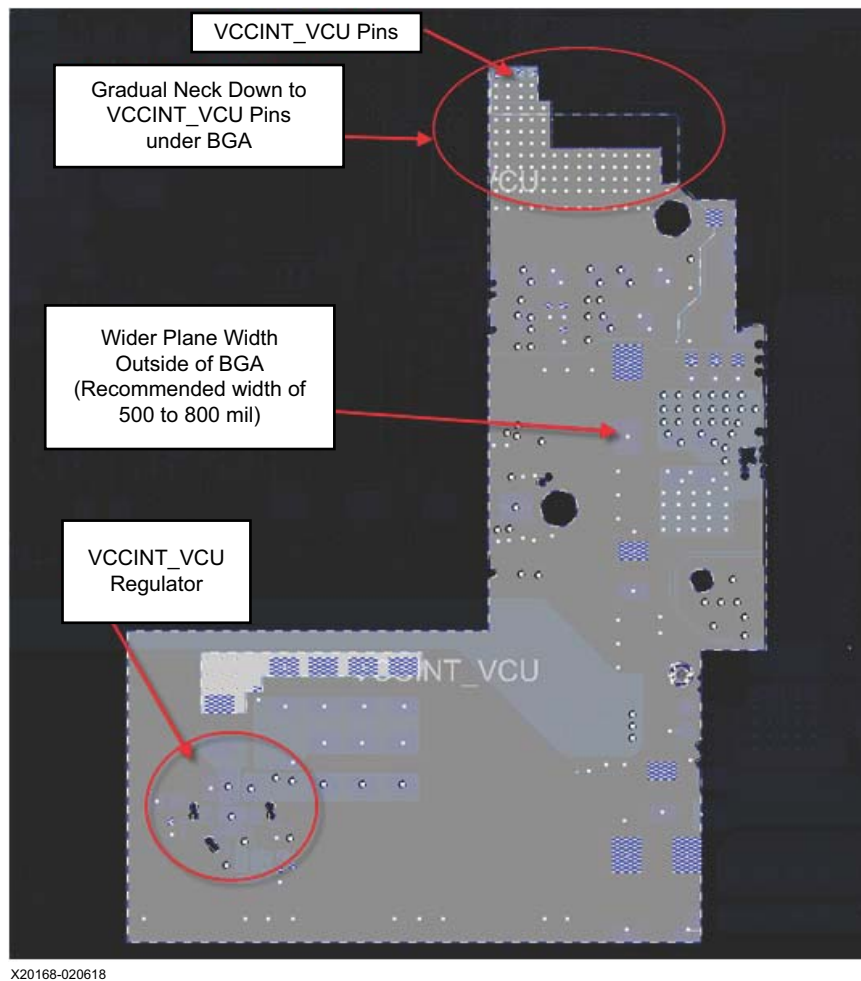

Figure 1-3: Example Plane Layout for  $V_{CCINT\_VCU}$
reductions due to vias and other keepouts. However, planes and planelets need to be drawn even wider to reduce resistive losses between the regulator and the BGA pins. While properly routed sense lines offer assistance in offsetting resistive losses, regulator efficiency is maximized when resistive loss is minimized. For these reasons, Xilinx recommends drawing  $V_{CCINT\_VCU}$  planes at 500–800 mil(1) width while outside of the BGA region, and 400 mils under the BGA before the plane gradually narrows to the  $V_{CCINT\_VCU}$  pins. Figure 1-3 shows an example  $V_{CCINT\_VCU}$  plane layout.